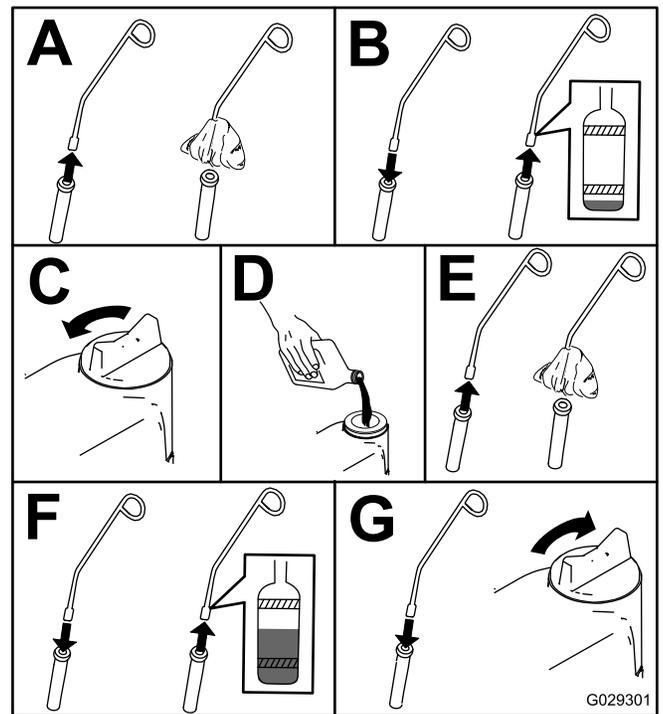

Figure 29
- Check the engine-oil level as shown in Figure 29.